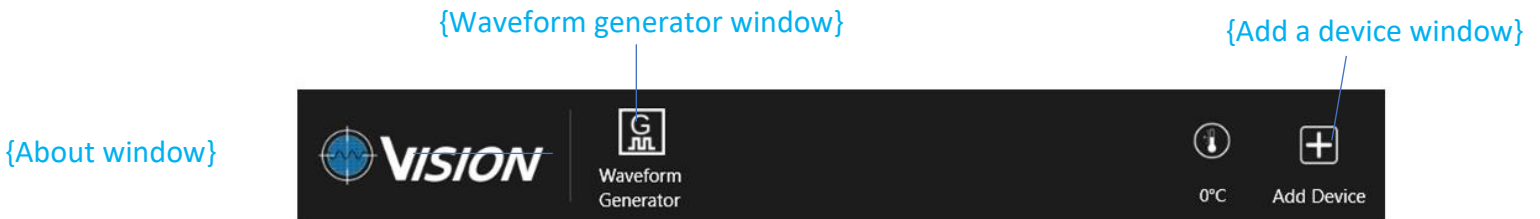

Figure 4: Vision control tab
- **About Window** (Figure 4) will give you access to the necessary information about the product including: